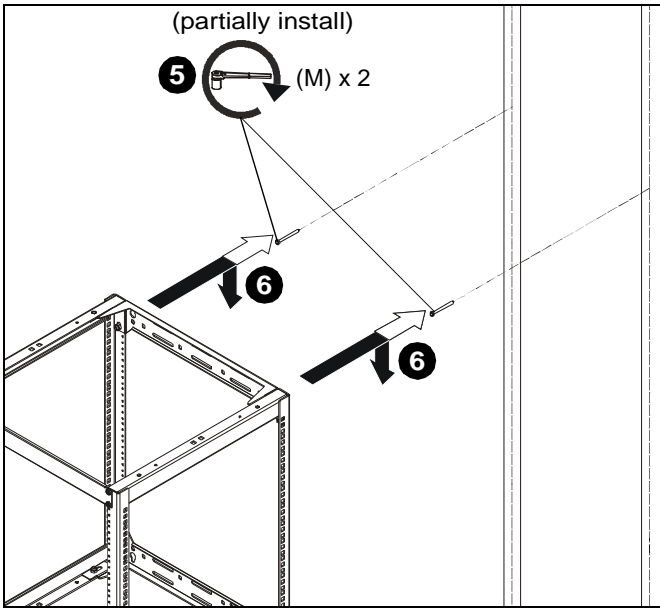

Figure 16
5. Partially install two 5/16" x 3 1/2" lag bolts (M) into upper U10 anchors (L). (See Figure 16)
6. Hang rack onto partially installed bolts. (See Figure 16)